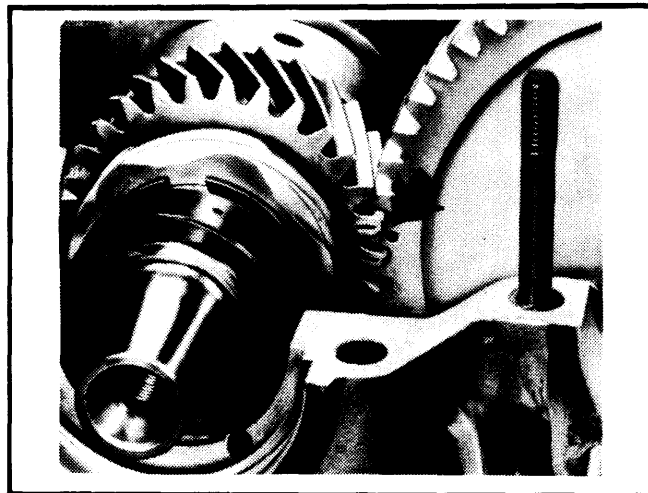

Fig. 11 Position of Camshaft Timing Gear
4) Install camshaft with "O" stamped in tooth on outside of camshaft gear between 2 teeth with punch marks on crankshaft gear. Assemble crankcase halves as previously outlined. See Fig. 11.
Install camshaft with "O" stamped in tooth on outside of camshaft gear between 2 teeth with punch marks on crankshaft gear. See Fig. 11.